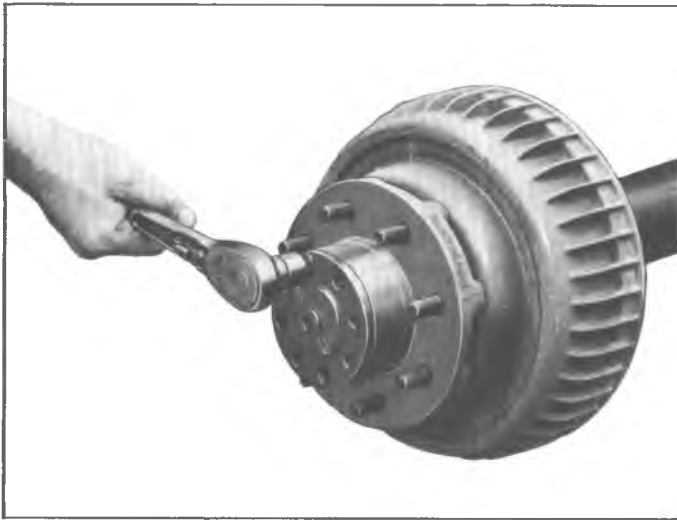

Fig. 63—Removing Flange-to-Hub Bolts
1. Remove bolts and lock washers that attach the axle shaft flange to the wheel hub. See figure 63.